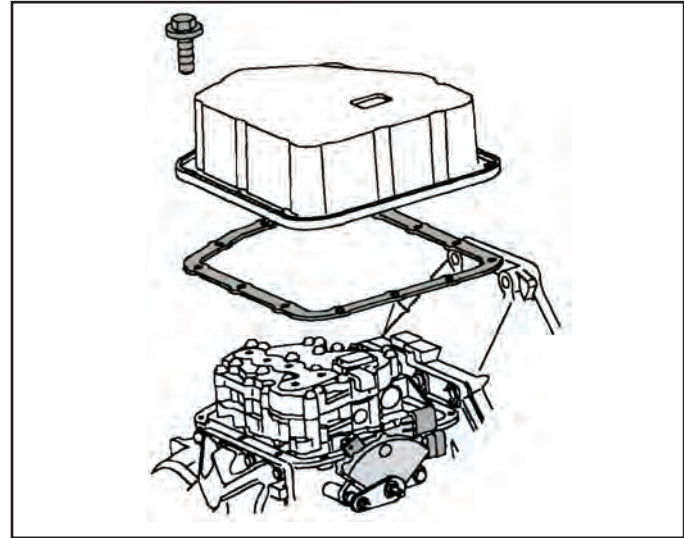

Figure 61
8. Remove the thirteen 8mm retaining bolts from the valve body cover and carefully lift the cover off the case without damaging the actuator connector (See Figure 61).